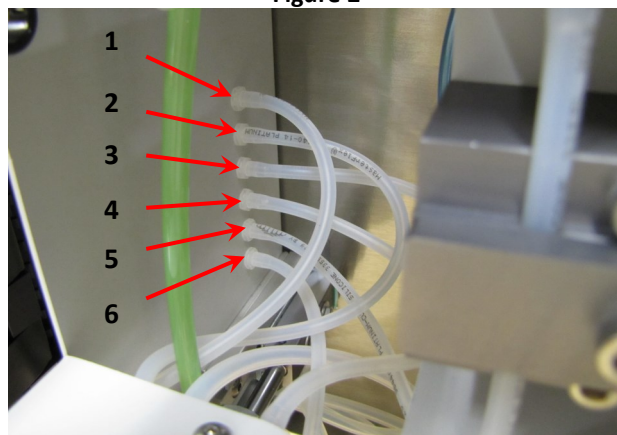

Figure 3
5. Note the location that each of the tubes originates from at the vertical gusset panel in Figure 3.